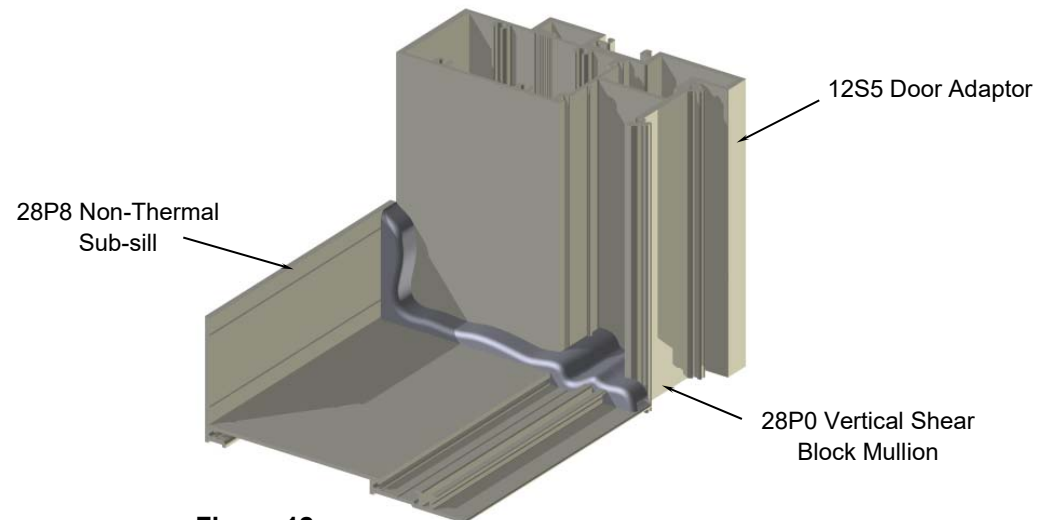

Figure 12
- Before installing the sub-sill to the door frame, seal the end of the sub-sill with a silicone type of sealant. Install the sub-sill and tool all excess sealant into the joint where the frame meets the sub-sill. At the glazing pockets, a build-up of silicone sealant must be used to fill the depth of the pocket up to the level of the sub-sill at the glazing area. See figure 12.